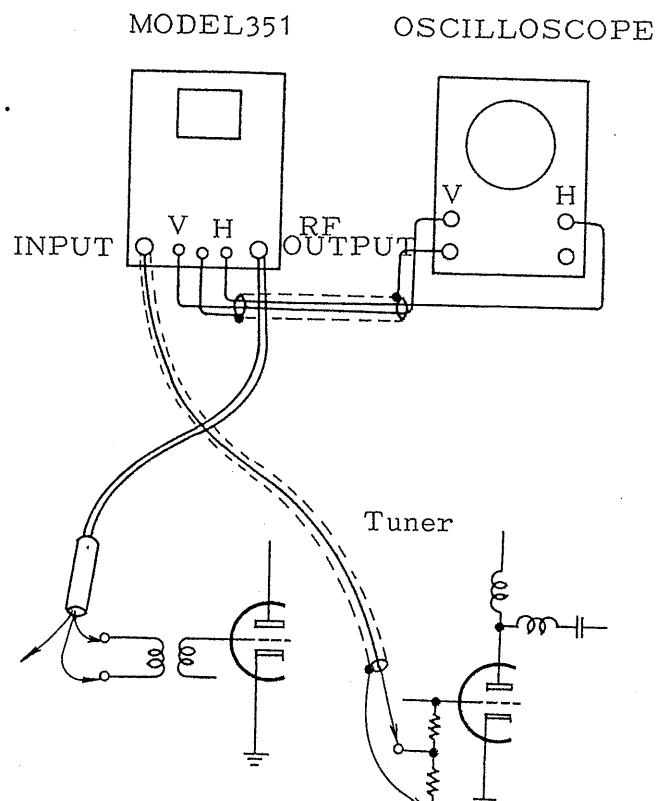

Fig. 5-1
(A) 300 ohms clips of attached cable (see Fig. 3-1) is to be connected to TV input terminal as shown Fig. 5-1.
waveform as shown in Fig. 5-1